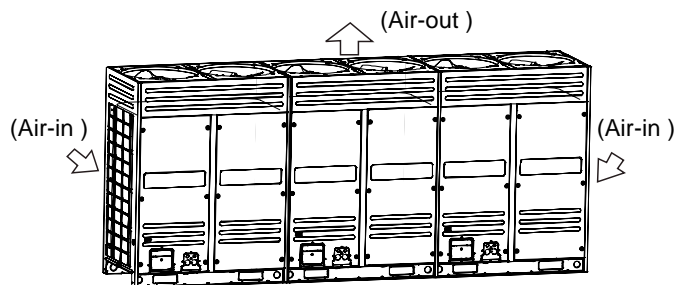

Fig.1
- Ensure enough space for maintenance. The modules in the same system must be on the same height.(see the Fig.1)